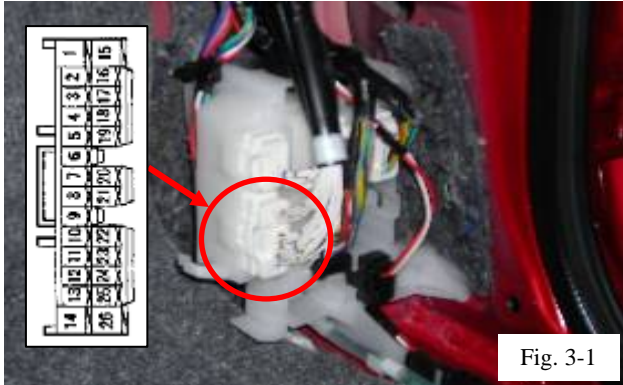

Fig. 3-1
- (a) Locate the 26 pin connector on the passenger side cowl area. (Fig. 3-1)